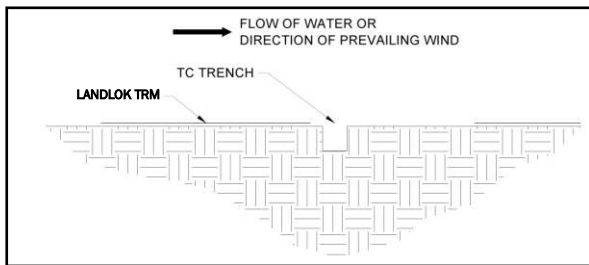
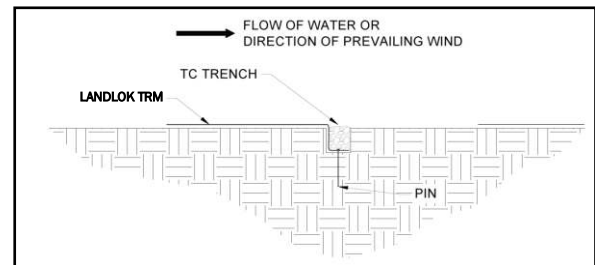

Figure 18: Terminal Channel (TC) Trench Alignment
Figure 19: Terminal Channel (TC) Trench Placement
11. Lay the last LANDLOK panel on the upstream side of the TC trench (Figure 18). Place the panel edge in the TC trench, ensuring full coverage along the bottom of the entire TC trench with the LANDLOK (Figure 19).
12. Secure LANDLOK with pins in the TC trench. Suggested placement of pins for the TC trench is along the bottom of the trench with pins on 12 in (300 mm) centers (Figure 19).
13. Backfill and compact the TC trench (Figure 19).